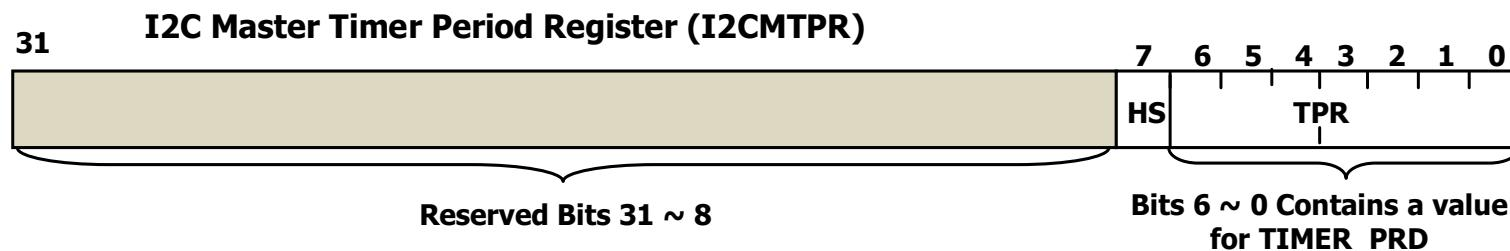

Figure 8.52 The bit configurations in the I2CMTPR register.
- This register is programmed to set the timer period for the **SCL** clock and assign the **SCL** clock to either **standard** or **high-speed** mode (Figure 8.52).